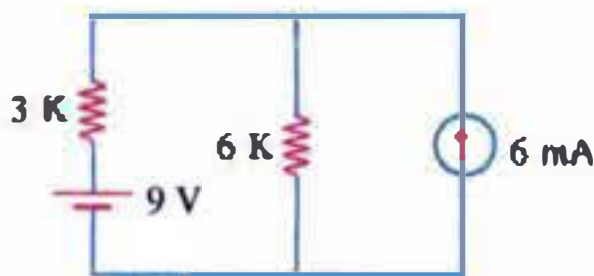

Fig. 4.25
2. Using Superposition Theorem, calculate the current flowing through 6 K resistor of the circuit shown in Fig. 4.25. [3 mA]
5. For the circuit of Fig. 4.25, find Norton's equivalent and hence find circuit through the 6 K resistor. [$I_N = 9 \text{ mA}$, $R_N = 3 \Omega$, 3 mA]